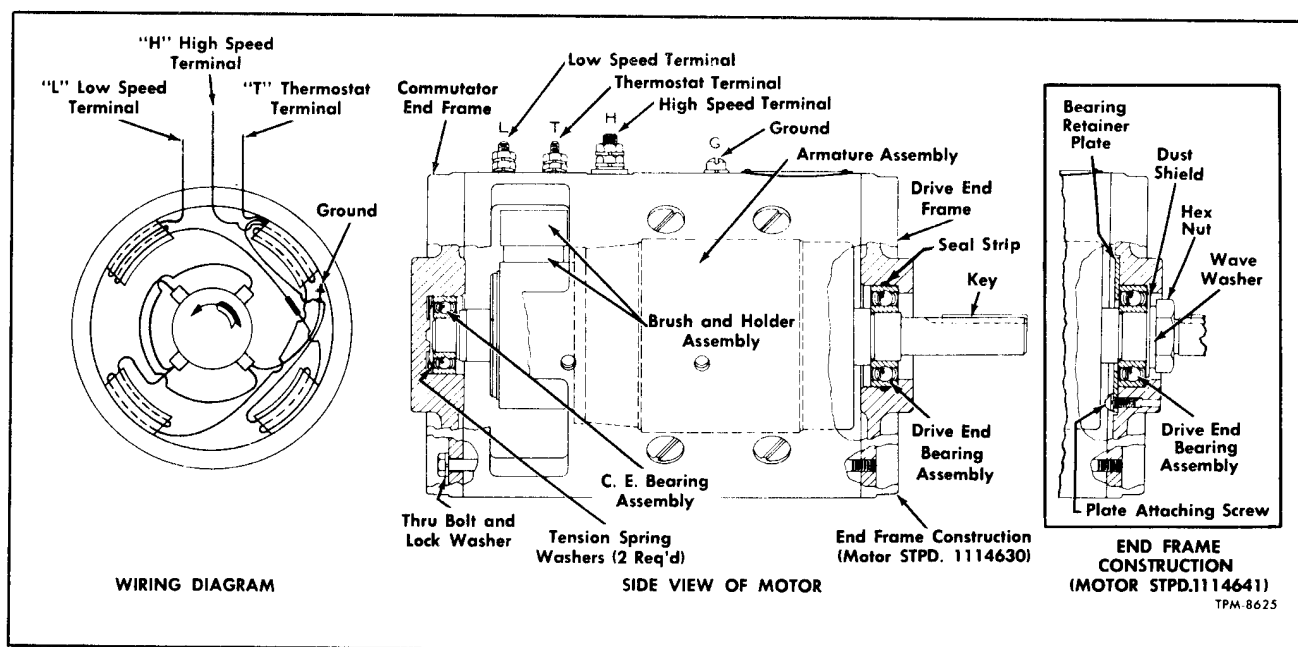

Figure 48—Underfloor Blower Motor
The blower motor assembly (fig. 48) is a two-speed DC sealed ball bearing motor incorporating internal thermal protection, and operates as a series motor for high-speed (air-conditioning and "BLOWER" - "HI") operation and as a compounded motor for low-speed (heating and "BLOWER" - "LO") operation. The vehicle wiring is so arranged, that blower magnetic switch is grounded through the built-in circuit breaker which in the event of motor overheating, will de-energize the armature and series circuit until operating temperature lowers to a point where the circuit breaker will close and again allow normal operation.
Drive end frame of motor differ on early and late motors. Figure 48 shows end frame construction views.
NOTE: Figure 48 shows sectional view of motor assembly.
2. Install bearing in drive end frame. **NOTE:** On early type motor stamped 1114630, insert pliable seal strip into recessed groove of end frame before inserting bearing. Coat seal lightly with clean lubricant. Bearing assembly on late type motor stamped 1114641, is retained in end frame by a plate which is secured with screws. (See applicable view, fig. 48.)
NOTE: On late type motor stamped 1114641, install dust shield, wave washer, and hex nut on motor shaft as shown in figure 48. Tighten nut firmly.